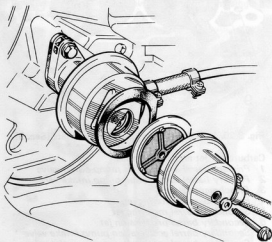

Fig. 3.34. Fuel pump filter bowl removed (Sec. 10)
- 6 The fuel pump filter can be removed by removing the single screw retaining the top cover, and lifting out the filter screen (Fig. 3.34).